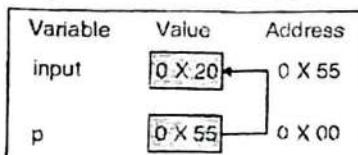

Fig. 3.4.7: Pointer as variable
- Suppose we assign the address of input variable to a variable p. The Link between the variable p and input shown in Fig. 3.4.7. The address of p is 0×00 .